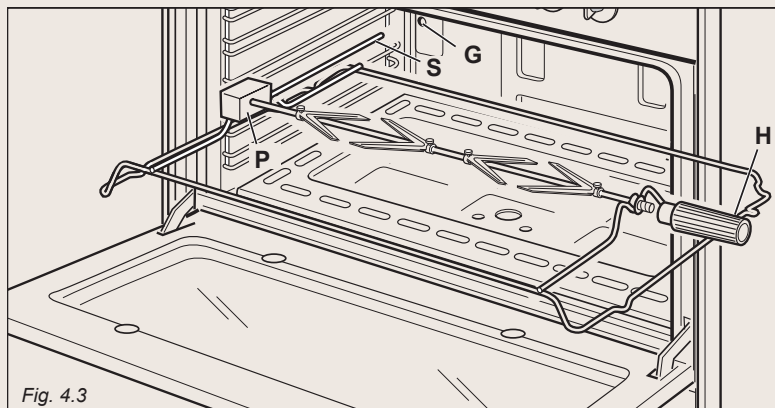

Fig. 4.3
- * Insert the rod into the side gear opening "P" (fig. 4.3)